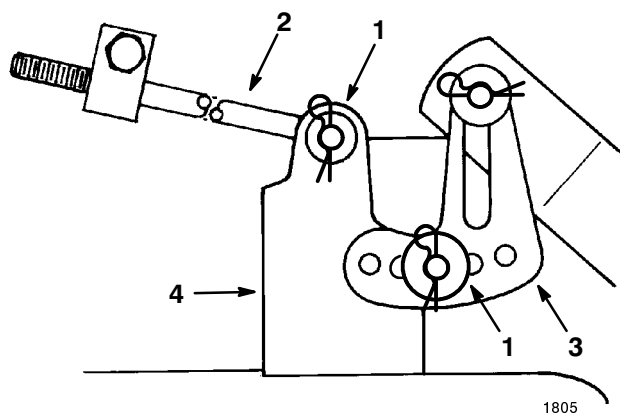

Figure 39
10. Remove the hair pin cotter and washer from the end of the long rod (Fig. 39). Now slide the rod out of the mower mount. Repeat this step on the opposite side of the mower.
11. Remove the hairpin cotter and washer at the mower leveling bracket (Fig. 39). Slide the bracket off the mounting pin. Re-install the washer and hairpin cotter for storage.